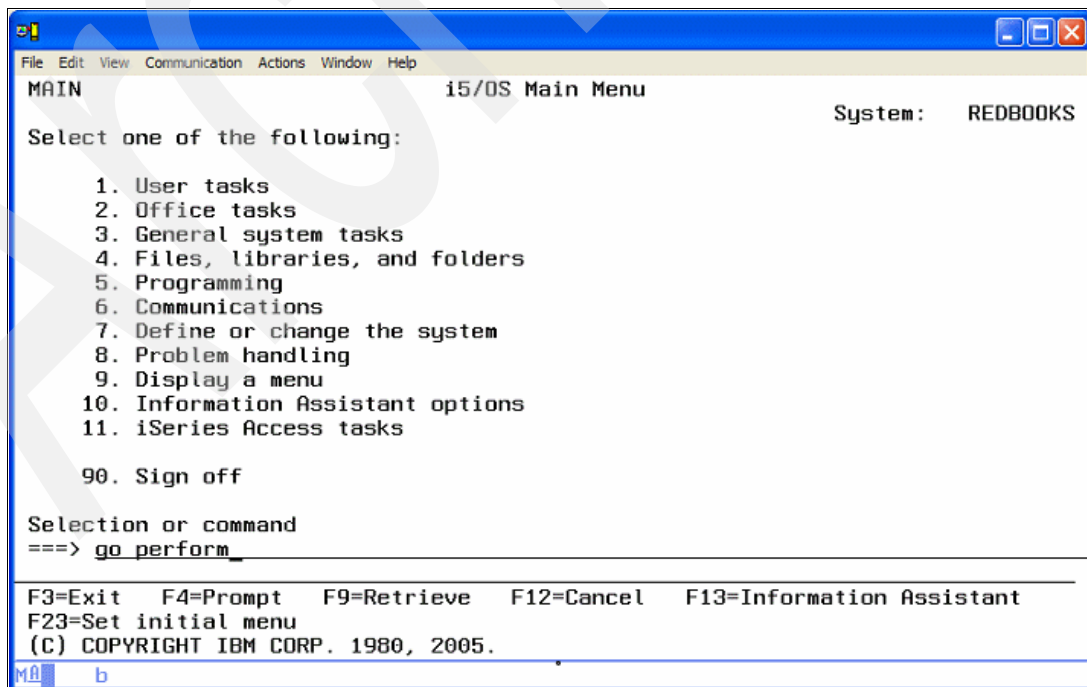

Figure A-14 Launching Performance Tools
- Enter **go perform** on the system command line to open the Performance Tools main menu (Figure A-14).